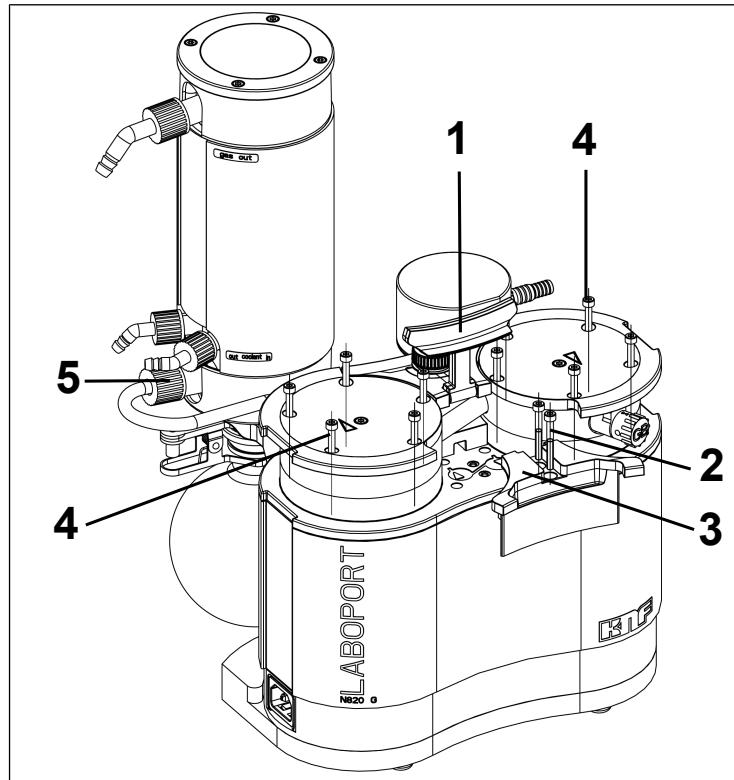
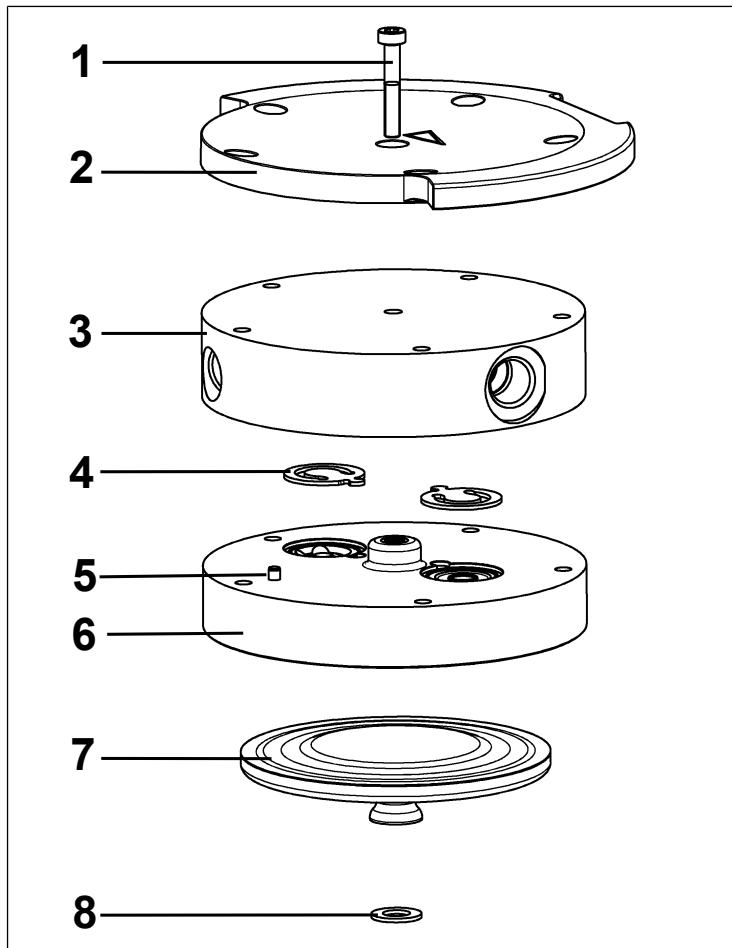

Fig.11: Remove handle cover
Fig.12: Pump head (pump N820 shown)
2. Remove the union nut of the hose connection (5/Fig. 11) from the vacuum system components.
3. Put the handle (1/Fig. 11) into a vertical position.
4. Loosen the two screws (2/Fig. 11) of the handle cover (3/Fig. 11).
5. Remove the handle cover (3/Fig. 11).
6. Loosen the external cap screws (4/Fig. 11) on both pump heads.
**i** The two internal cap screws (1/Fig. 12) remain tightened for the time being.
**i** The following item numbers refer to Fig. 12, unless specified otherwise.
1. Mark the pressure plate (2), head cover (3) and intermediate plate (6) with a continuous pencil stroke. This prevents the parts from being incorrectly mounted later on.
2. Remove the external screws (4/Fig. 11) of the pump heads.
8. Tighten the internal cap screw (1) in the center of the pressure plate (tightening torque: 1 Nm). Care must be taken not to overtighten this screw.
9. Tighten the screws (4Fig. 11) in a crosswise pattern (tightening torque: SH/SR820G: 4 Nm; SR/SR840G: 5 Nm)
11. Hand-tighten the union nut of the hose connection (5/Fig. 11) on the high-performance condenser (2/Fig. 2).
1. Mount the handle cover (3/Fig. 11).
2. Tighten the screws (2/Fig. 11) of the handle cover (3/Fig. 11) (tightening torque: 2 Nm).